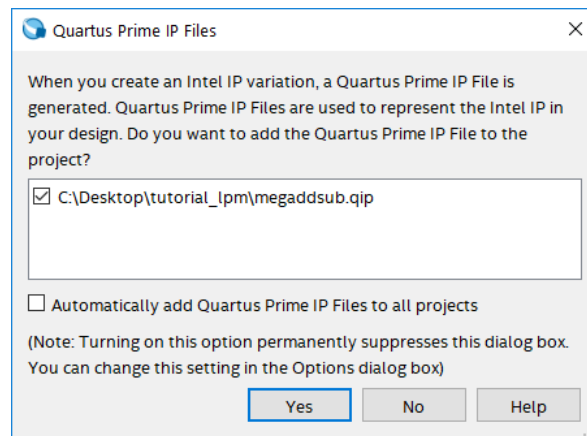
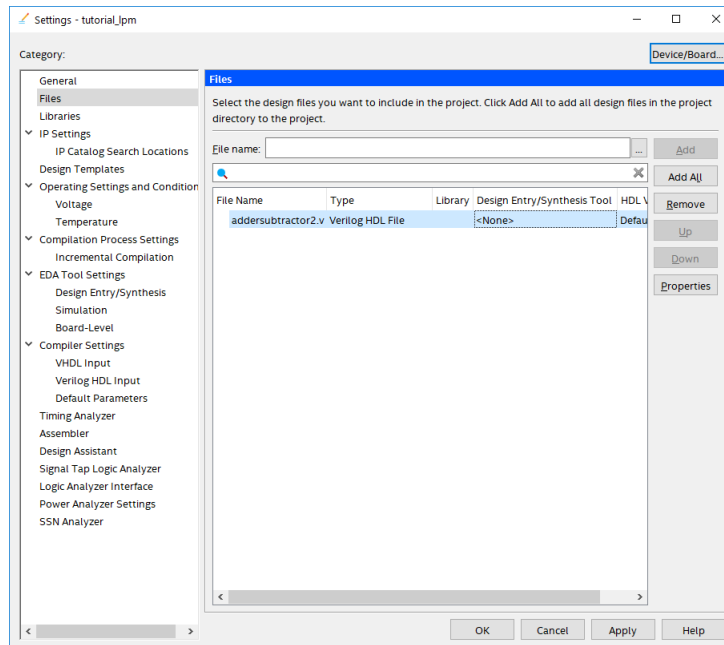
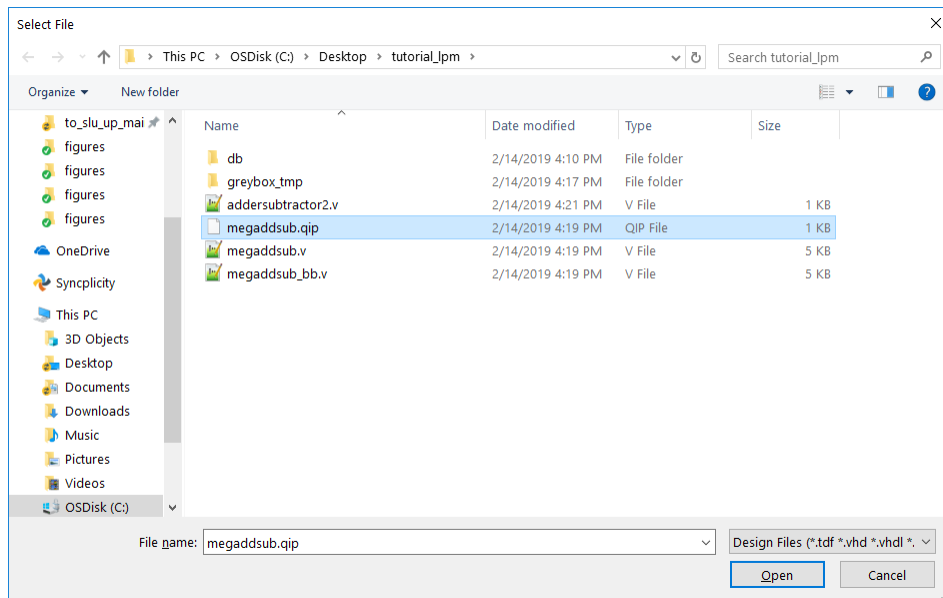

Figure 12. Add the new files to the project.
Figure 15. Inclusion of the new file in the project.
Figure 16. Specify the *megaddsub.qip* file.
10. The box in Figure 12 may pop up. If it does, press **Yes** to add the newly generated files to the project.
If the *megaddsub.qip* file has not been included in the project (e.g. if you answered **NO** in the box in Figure 12, or possibly if the box did not show up at all), you need to include it manually. To include the *megaddsub.v* file in the project, select **Project > Add/Remove Files in Project** to reach the window in Figure 15. The file *addersubtractor2.v* should already be listed as being included in the project. Browse for the other files by clicking the button ... to reach the window in Figure 16. Select the file *megaddsub.qip* and click **Open**, which returns to the window in Figure 15. Click **Add** to include the file and then click **OK**. Now, the modified design can be compiled and simulated in the usual way.